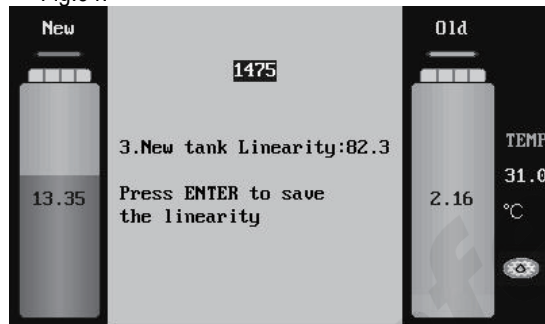

Fig.34
- 5) Put the weight on the plate. When the value displayed on the interface is stable, please press ENTER key to continue. The interface is as shown in Fig.34.